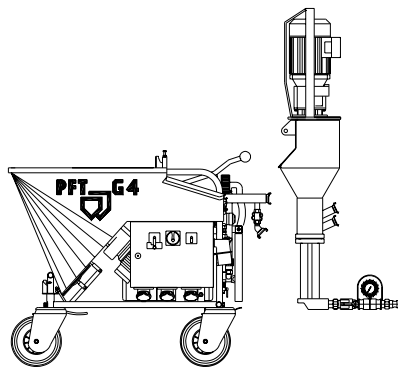

Fig. 16: Dismantling the mixing pump
4. For easier transport, break down the machine into the mixing pipe and material container subcomponents (see Fig. 16). These items can be transported separately.